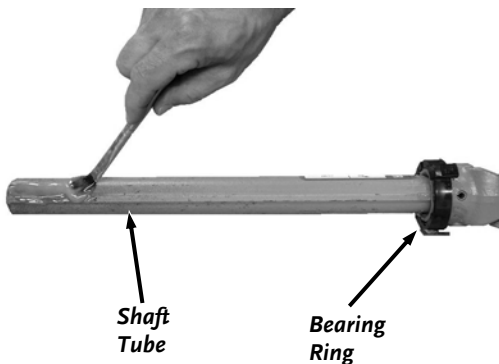

Figure 20
6. Grease both Shaft Tubes and under the Bearing Rings of each Shaft (**Figure 20**).